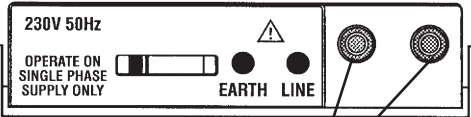

Fig. 1
4. 1 Instrument layout See Fig 1.